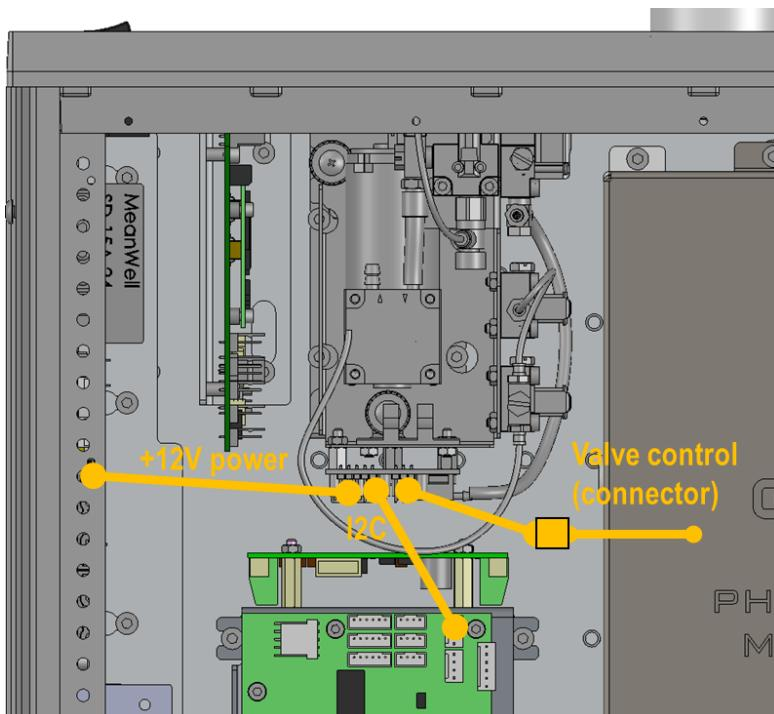

Figure 41. Electrical connections of the Gas Management Unit.
1. Disconnect electrical cables, see Figure 41